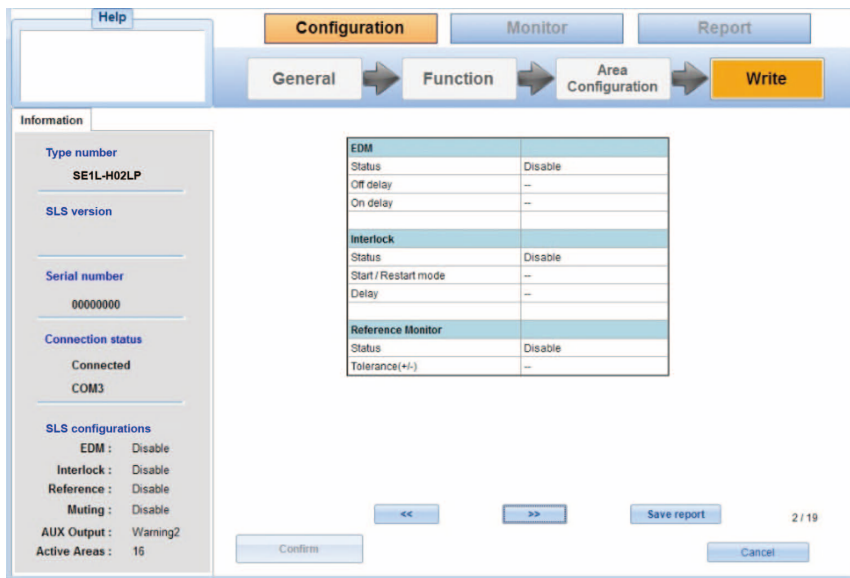

Figure 7-52. Functions configured
f) After the forward button is clicked, a window displaying the configurations of EDM, Interlock and Reference Monitor are as shown in figure 7-52.